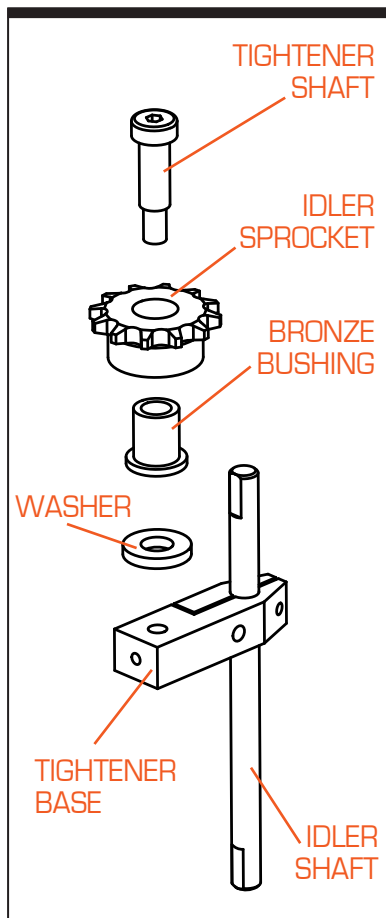

Figure 4-2. Typical FT-20/30-RD Idler Assembly
It is recommended you grease the idler assembly, for both the metric and ANSI single drive models, every six (6) months after installation. Note the order of assembly (see Figure 4-2).